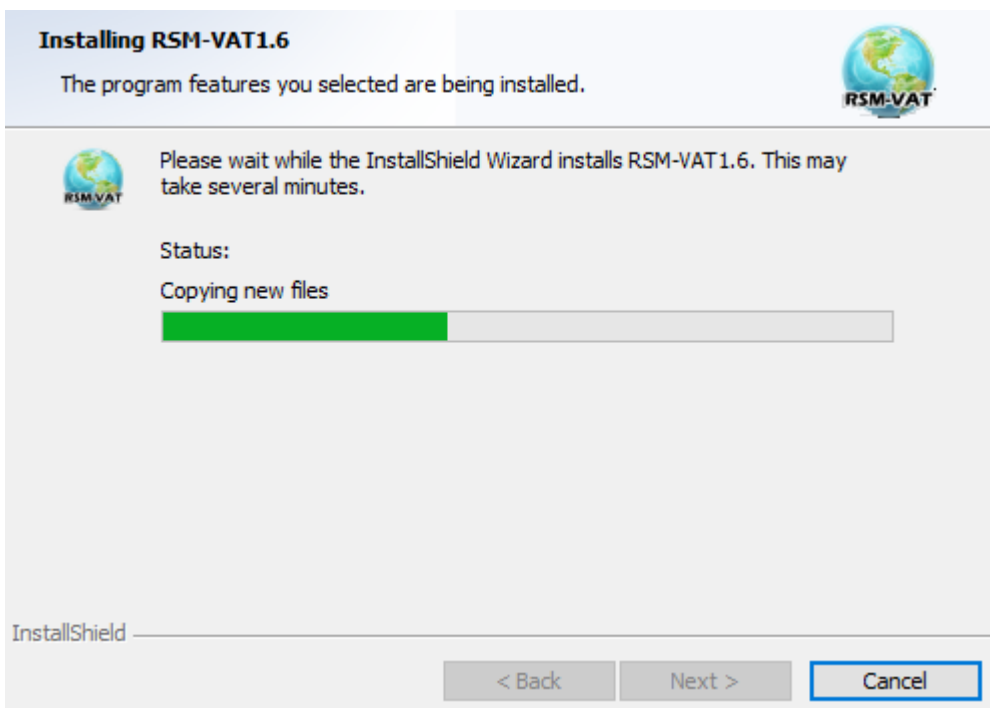

Fig. 4 Installation Process
- Click the “**Install**” button, Fig. 4 shows the installation process of RSM-VAT.